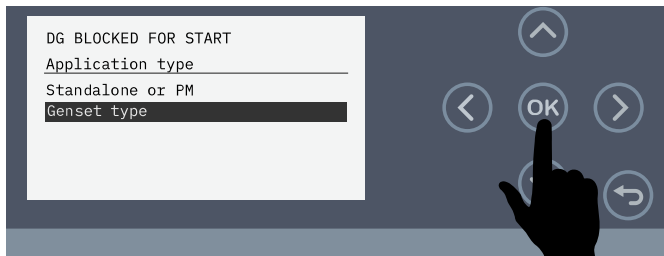

Figure 81. Select Genset Type
4. Press the **Down Arrow button** (Figure 81) until **Genset Type** is highlighted, then press the OK button.